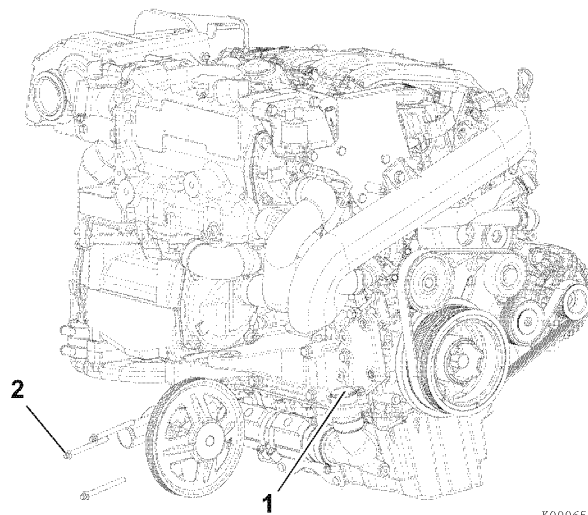

Figure 7-27
4. Disconnect seawater pump-to-hydraulic oil cooler pipe (1, Figure 7-27).
5. Remove three bolts (2, Figure 7-27) and remove seawater pump.